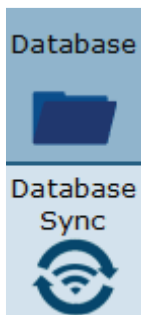
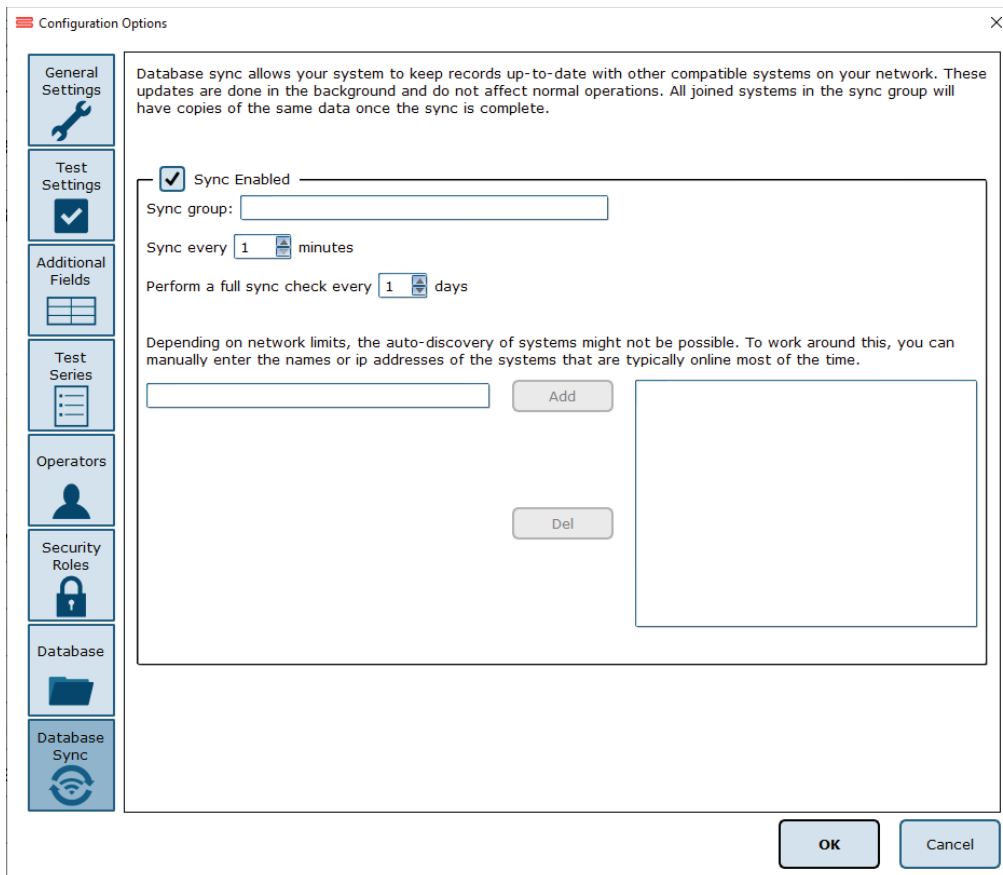

Figure 38: Database Merge Options.
Figure 40: Two-way Merge Options.
A merge can be performed through either a one-way (from a database archive) or a two-way (from another local or remote system) operation. The method chosen will depend upon the office's setup; typically, if two or more Bertec® computers are connected via a local area network, the two-way operation should be used. The Database Configuration page is used for one-way merging; to access the two-way merging feature, click on the database sync option on the bottom left of the screen. Figure 38 shows where this option is located. Refer to Figure 40 on page 30 if having trouble finding this option.
1. From the Database Configuration page, click on the Database Sync option (located on the bottom left of the screen). Refer to Figure 38 on page 28.
2. On the Database Sync page (shown in Figure 40), check the Enable Database Sync box.